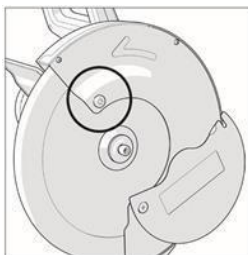

Fig.2
- Loosen the fastener screw securing the arbor guard and rotate the guard upwards to reveal the machine's arbor. **(Fig. 2)**